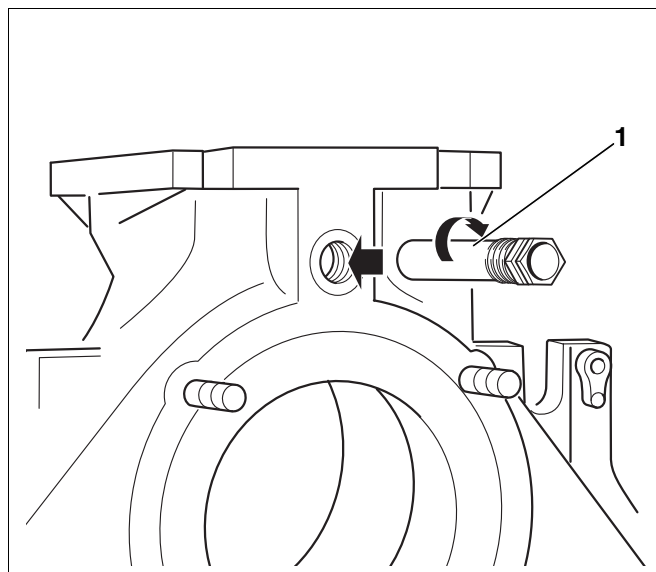

Fig. 25 Fitting the sensor well
- ▶ Seal the sensor well R $\frac{3}{4}$ from the rear of the boiler (length: 110 mm) into the R $\frac{3}{4}$ tapped hole of the flow connection (Fig. 25, [1]).